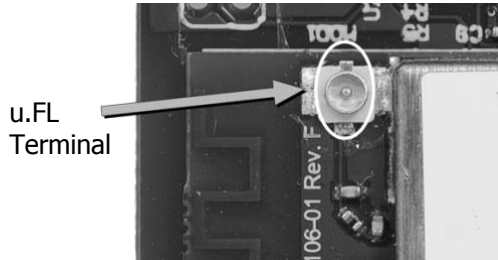
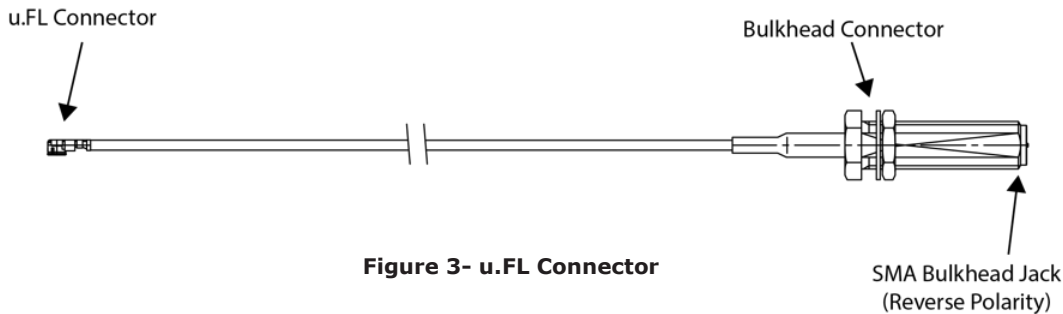

Figure 2- u.FL Terminal
Figure 3- u.FL Connector
2. Attach the 50 OHM Terminator to the RP-SMA bulkhead hand tight before attaching the u.FL cable (Figure 3) to the u.FL terminal (Figure 2). Keep the 50 OHM Terminator on the cable until mounting the bulkhead in the fixture or attaching an antenna for testing.